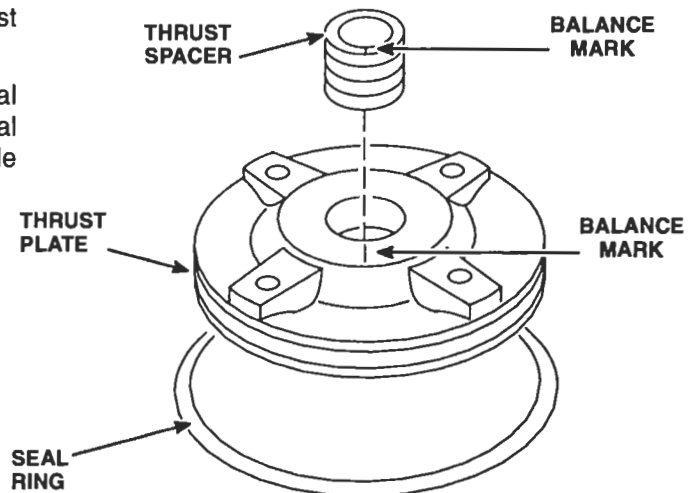

Figure 31. Installing Thrust Spacer in Center Housing Thrust Plate
10. Remove the backplate or thrust plate from the center housing. Then install the thrust spacer and seal ring assembly in the backplate or thrust plate (Figure 31.)